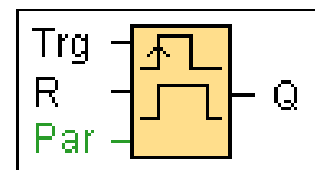

Fig.. 6.6 **Edge-triggered wiping relay**.
- 1: Set up, simulate and verify the circuit of Fig. 6.6, a solution for *Problem #3*.